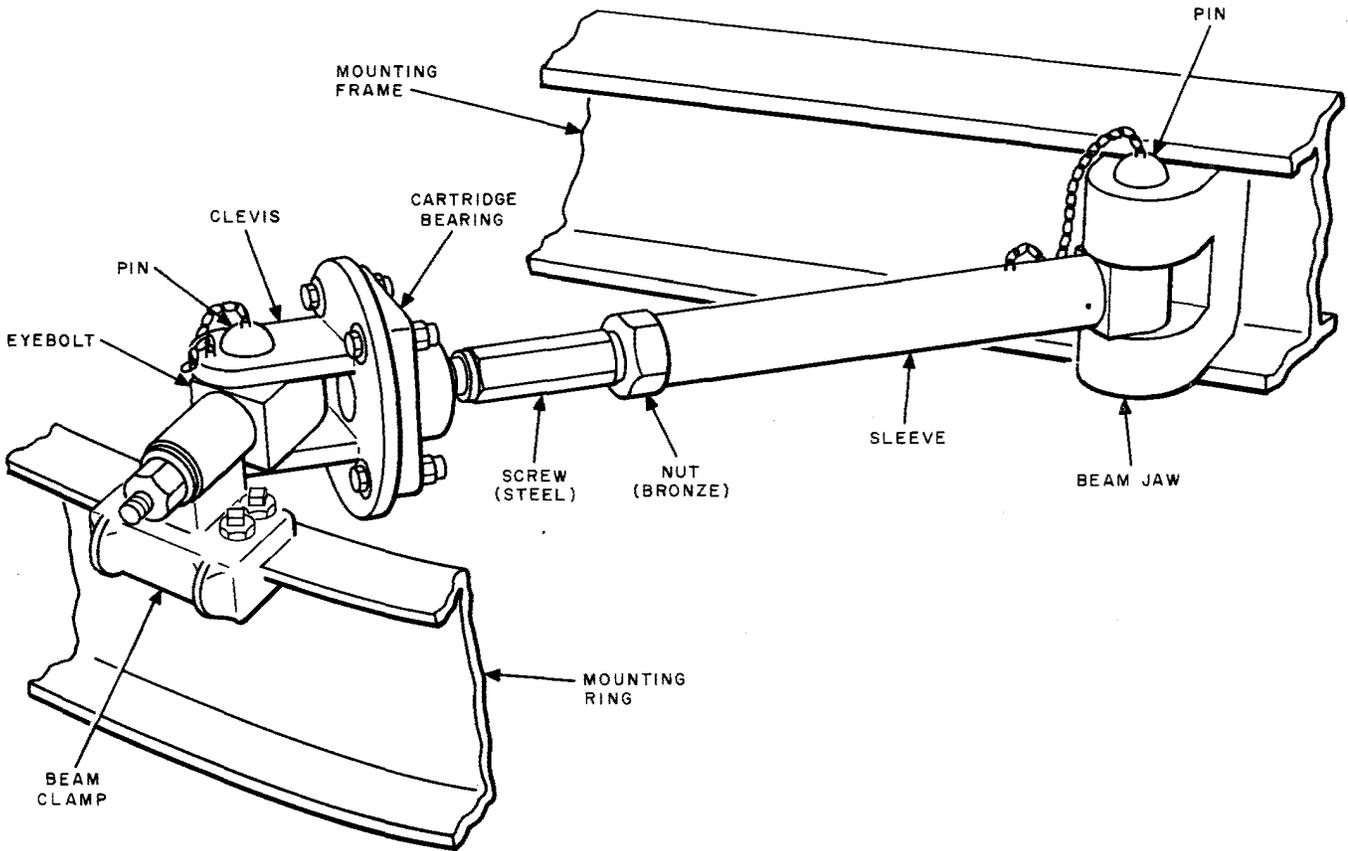

Fig. 7—KS-15676 L12 Azimuth Adjusting Tool
- (1) ♦Either the L12 or the L17 azimuth adjusting tool (Fig. 7 and 8) may be used to make the fine adjustment of the antenna in azimuth during electrical orientation. The adjusting tools are mounted and operated in the same manner except that the L12 tool is operated with an open-end wrench instead of a ratchet assembly, which is a part of the L17 tool. The tools are intended for use only during orientation and are not to be left in position on the antenna. ♦
- (2) On the antenna deck, select the L11 mounting clamp which is the most convenient for use with the azimuth adjusting tool. In general, this will be the clamp nearest the center of the tower. Slightly loosen the eyebolt stopnut and remove the 3/4-inch bolt from the beam jaw. Lay the bolt, with nut, carefully aside. Unlock and turn the four setscrews in the beam clamp until the clamp can be moved sideways on the mounting base flange. Move the clamp on the flange, withdrawing the eyebolt head from the beam clamp. Insert the end of the azimuth adjusting tool in the beam jaw, and fasten it by dropping the captive pin through the bolt hole in the beam jaw. ♦Extend the screw(s) of the azimuth adjustment tool enough to expose